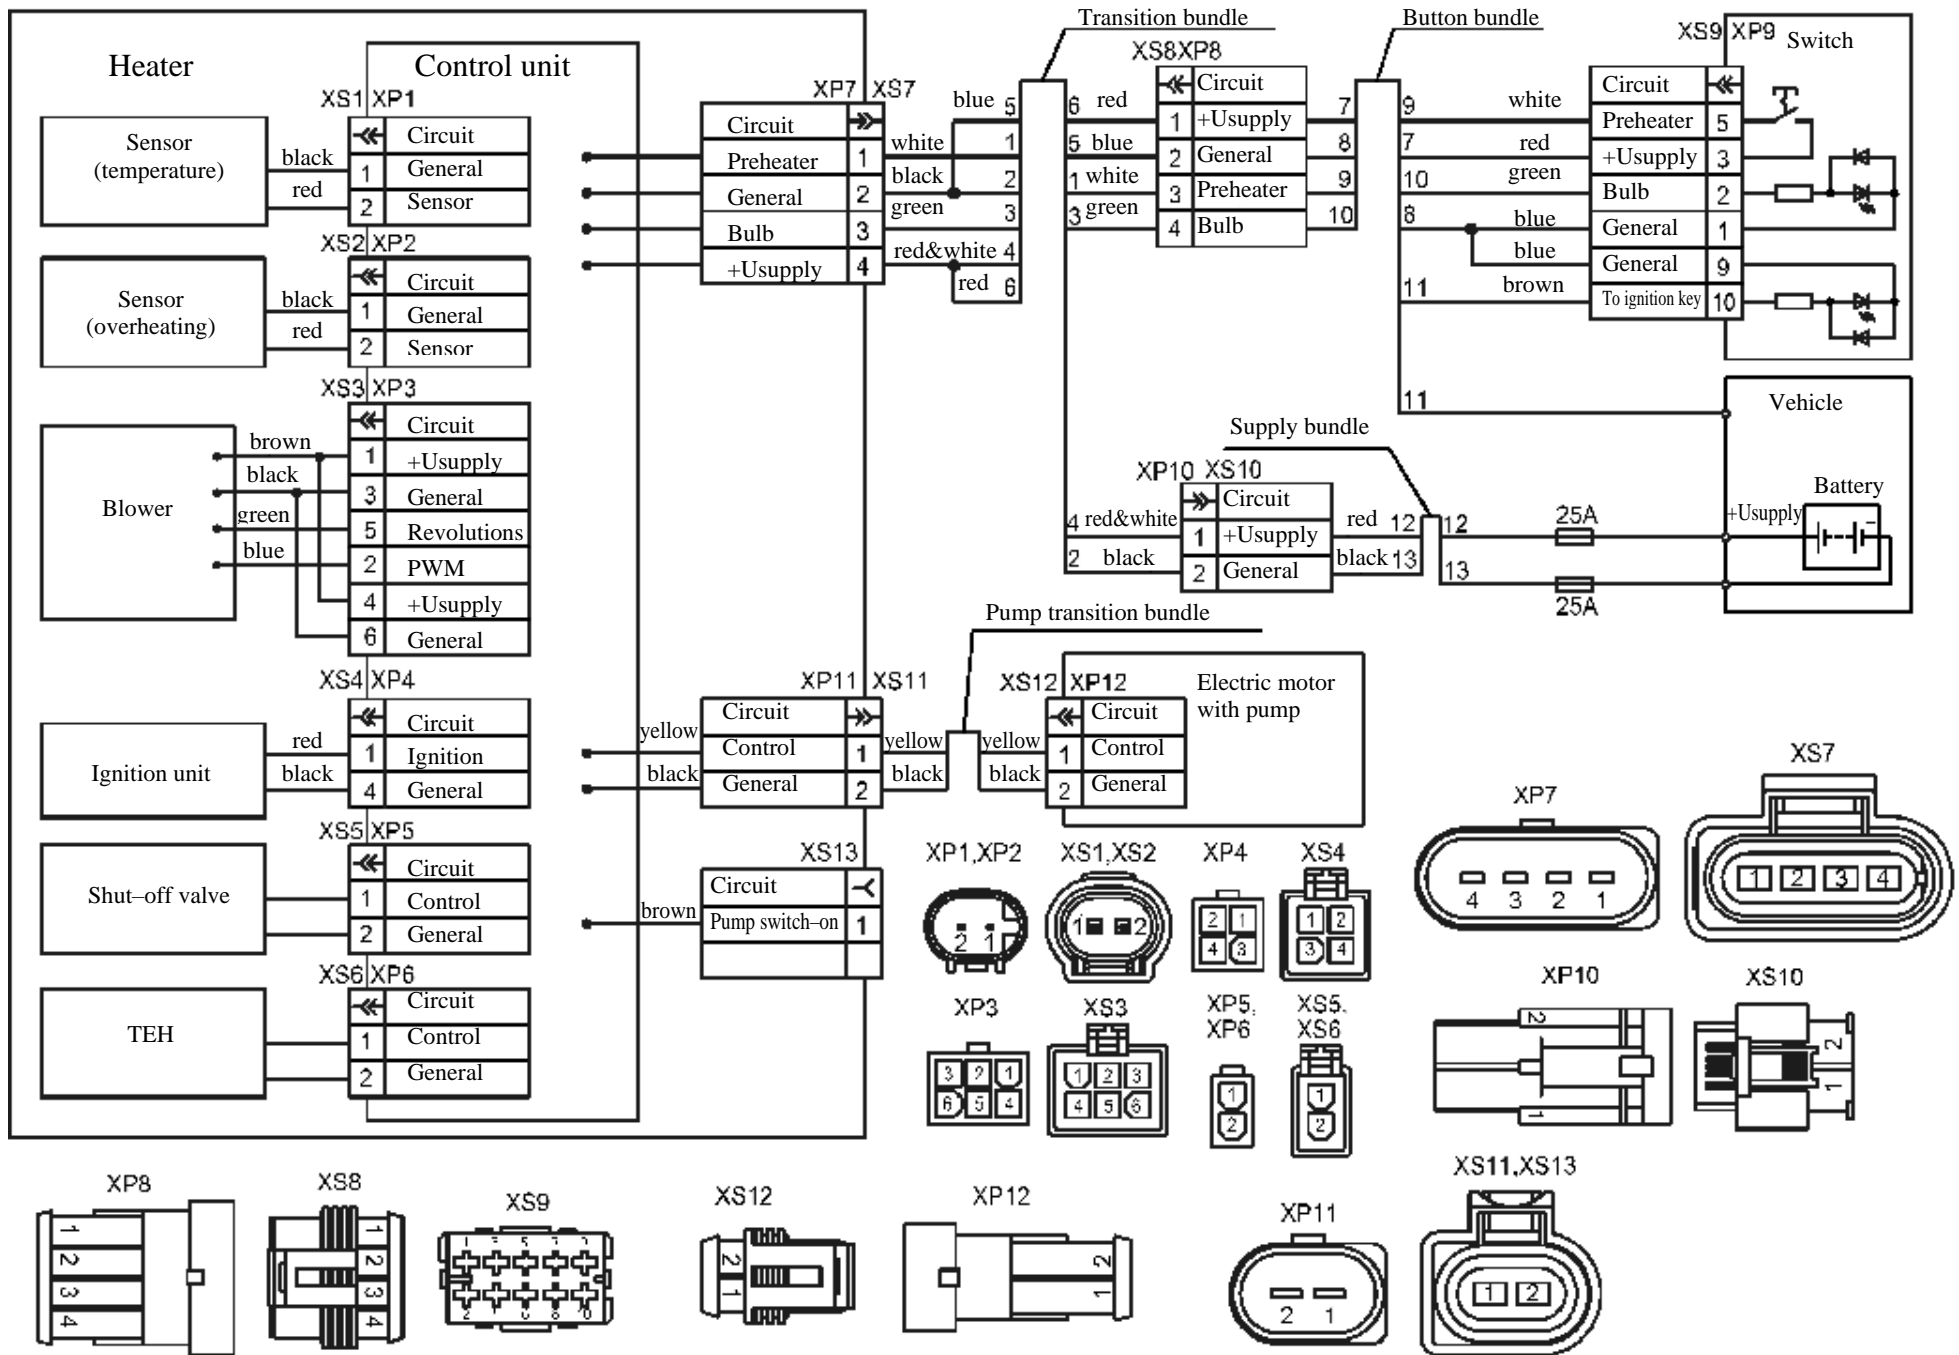

Fig. 1 – Electric connection layout
Heater fuel and electric power supply is realized from vehicle. Heater electric connection layout is shown in Fig. 1.
- 2 Check voltage on XS7 connector (see electric connection layout in Fig. 1). If no voltage on XS7 connector, it is necessary check and, if necessary, replace 25 A fuses on power supply bundle.
8.1 Start search for faults with checking connector contacts of checked circuits (see electric connection layout in Fig. 1).
* to unblock, after switching heater on within 20 seconds remove XS7 connector from heater and after 5 seconds connect XS7 connector back (according to electric connection layout, Fig. 1). This procedure must be repeated three times.